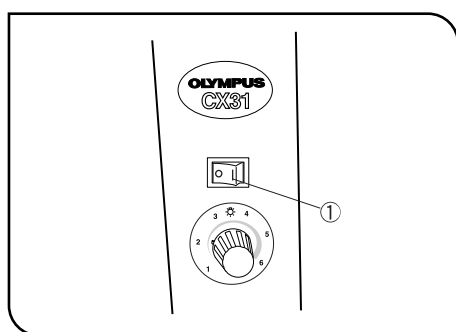

Fig. 4
2 Connecting the Power Cord (Figs. 4 - 6)
▲ Make sure that the main switch ① is set to “ O ” (OFF) before connecting the power cord. (Fig. 4)